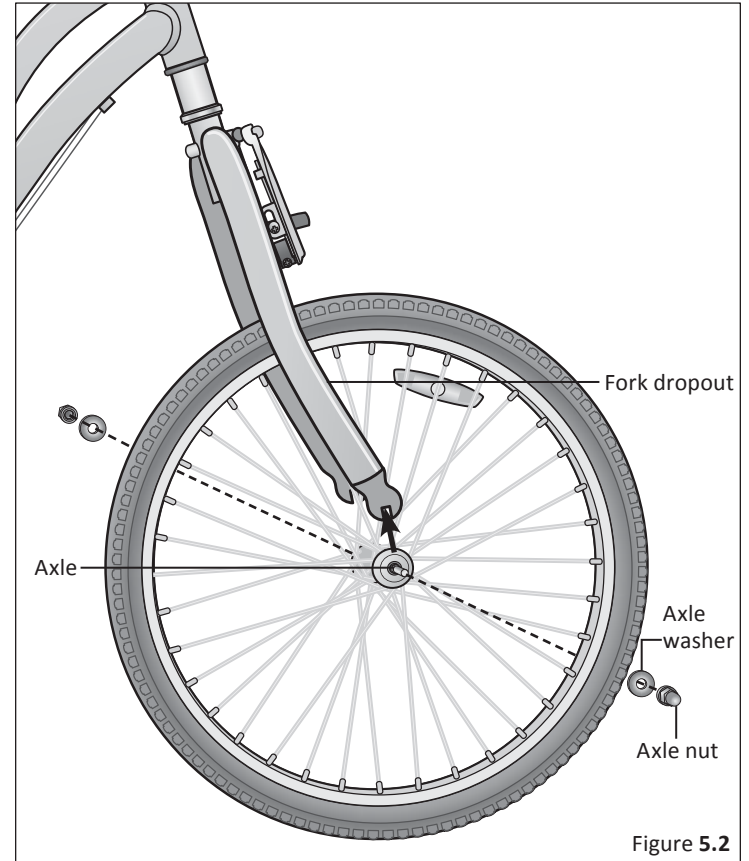

Figure 5.2
2. A hollow axle with a shaft *skewer* running through it which has a nut on one end and a fitting for a hex key, lock lever or other tightening device on the other (through bolt, **Figure 5.2**)